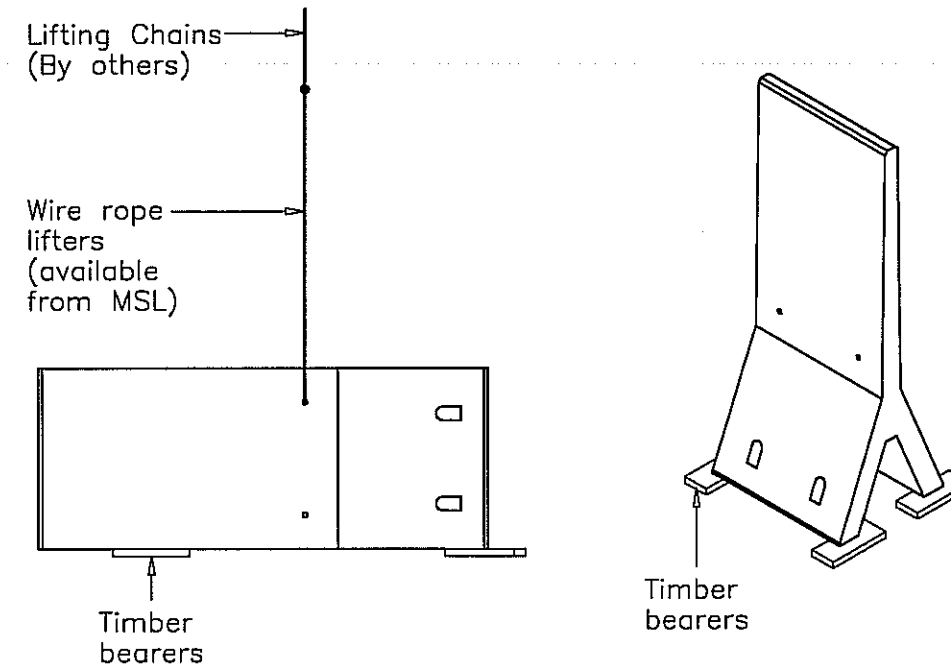

Fig. 2
2. Units to be uprighted IN A SLOW AND CONSISTANT MOTION using the UPPER lifting hole and stacked upon timber bearers as shown in Fig. 2